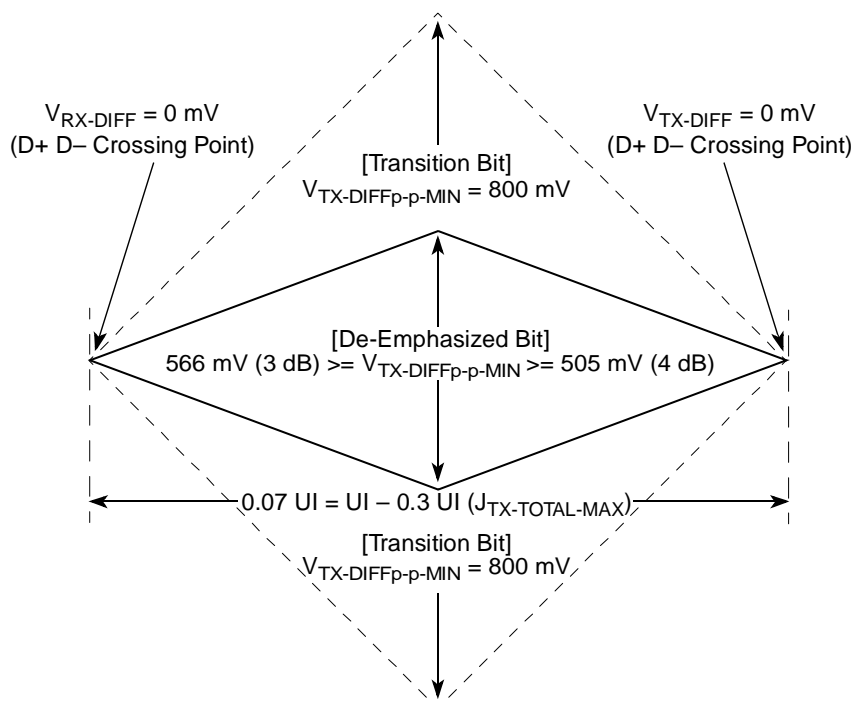
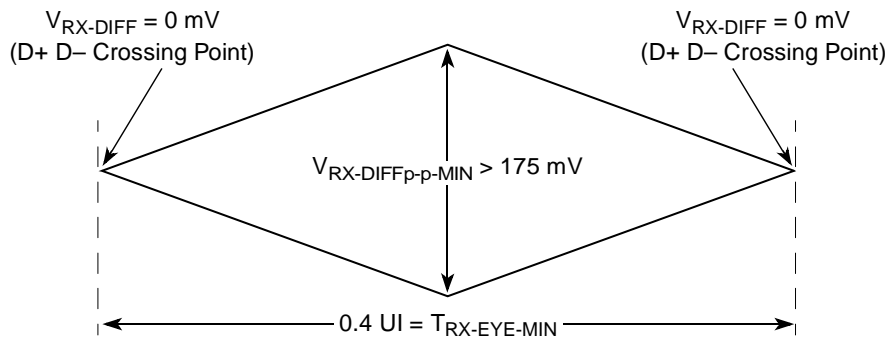
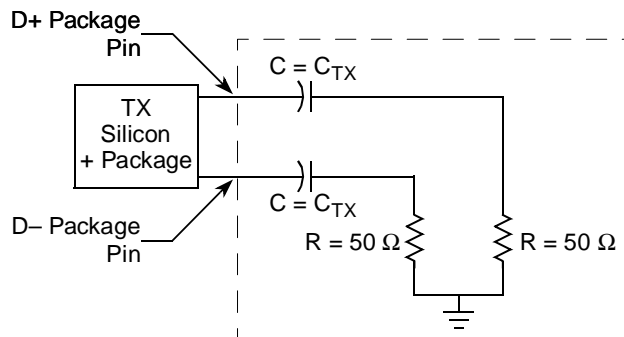

Figure 48. Minimum Transmitter Timing and Voltage Output Compliance Specifications
Figure 49. Minimum Receiver Eye Timing and Voltage Compliance Specification
Figure 50. Compliance Test/Measurement Load
2. Specified at the measurement point into a timing and voltage compliance test load as shown in Figure 50 and measured over any 250 consecutive TX UIs. (Also refer to the transmitter compliance eye diagram shown in Figure 48.)
4. The transmitter input impedance shall result in a differential return loss greater than or equal to 12 dB and a common mode return loss greater than or equal to 6 dB over a frequency range of 50 MHz to 1.25 GHz. This input impedance requirement applies to all valid input levels. The reference impedance for return loss measurements is 50 Ω to ground for both the D+ and D– line (that is, as measured by a vector network analyzer with 50- Ω probes—see Figure 50). Note that the series capacitors C_{TX} is optional for the return loss measurement.
5. Measured between 20%–80% at transmitter package pins into a test load as shown in Figure 50 for both $V_{\text{TX-D+}}$ and $V_{\text{TX-D-}}$.
The TX eye diagram in Figure 48 is specified using the passive compliance/test measurement load (see Figure 50) in place of any real PCI Express interconnect +RX component.
2. Specified at the measurement point and measured over any 250 consecutive UIs. The test load in Figure 50 should be used as the RX device when taking measurements (also refer to the receiver compliance eye diagram shown in Figure 49). If the clocks to the RX and TX are not derived from the same reference clock, the TX UI recovered from 3500 consecutive UI must be used as a reference for the eye diagram.
4. The receiver input impedance shall result in a differential return loss greater than or equal to 15 dB with the D+ line biased to 300 mV and the D– line biased to –300 mV and a common mode return loss greater than or equal to 6 dB (no bias required) over a frequency range of 50 MHz to 1.25 GHz. This input impedance requirement applies to all valid input levels. The reference impedance for return loss measurements for is 50 Ω to ground for both the D+ and D– line (that is, as measured by a vector network analyzer with 50- Ω probes—see Figure 50). Note: that the series capacitors CTX is optional for the return loss measurement.
The RX eye diagram in Figure 49 is specified using the passive compliance/test measurement load (see Figure 50) in place of any real PCI Express RX component.
Note: In general, the minimum receiver eye diagram measured with the compliance/test measurement load (see Figure 50) will be larger than the minimum receiver eye diagram measured over a range of systems at the input receiver of any real PCI Express component. The degraded eye diagram at the input receiver is due to traces internal to the package as well as silicon parasitic characteristics which cause the real PCI Express component to vary in impedance from the compliance/test measurement load. The input receiver eye diagram is implementation specific and is not specified. RX component designer should provide additional margin to adequately compensate for the degraded minimum receiver eye diagram (shown in Figure 49) expected at the input receiver based on some adequate combination of system simulations and the return loss measured looking into the RX package and silicon. The RX eye diagram must be aligned in time using the jitter median to locate the center of the eye diagram.
The reference impedance for return loss measurements is 50. to ground for both the D+ and D- line (that is, as measured by a vector network analyzer with 50-Ω probes—see Figure 50). Note that the series capacitors, CTX, are optional for the return loss measurement.
The AC timing and voltage parameters must be verified at the measurement point, as specified within 0.2 inches of the package pins, into a test/measurement load shown in Figure 50.